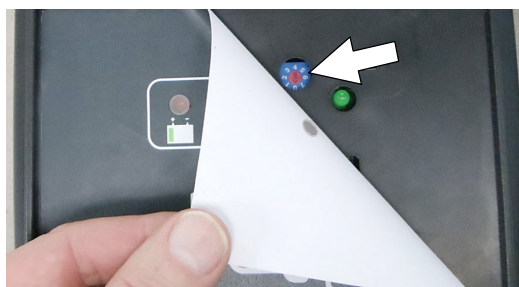

FIG. 78
2. Carefully peel back the charger display label to access the dial settings (Figure 78).